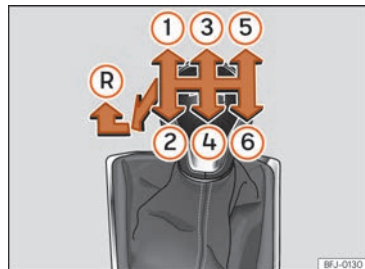

Fig. 122 Diagram of a 6-speed manual gearbox.
Gear positions are indicated on the gear lever »» Fig. 122.
- With the gear lever in neutral, push it down, move it all the way to the left and then forwards to select reverse gear >>> Fig. 122 (R).